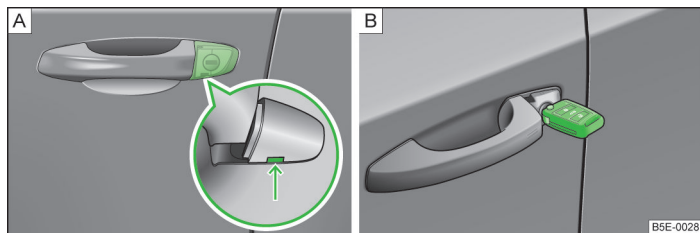

Fig. 209 Handle on the driver's door: covered locking cylinder/locking cylinder with key
- Push the vehicle key into the recess on the bottom side of the cover in the region of the arrow and fold it upwards » Fig. 209 - [A].
- Insert the vehicle key (the buttons facing upward) into the locking cylinder and lock/unlock the vehicle » Fig. 209 - [B].